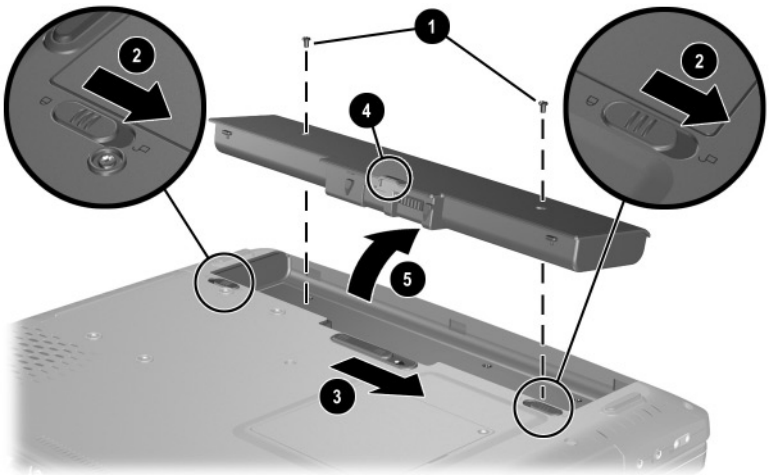

Figure 5-3. Removing the Battery Bay Space Saver
- b. Remove the two TM2.5 × 7.0 screws **1** that secure the battery bay space saver to the notebook (Figure 5-3).